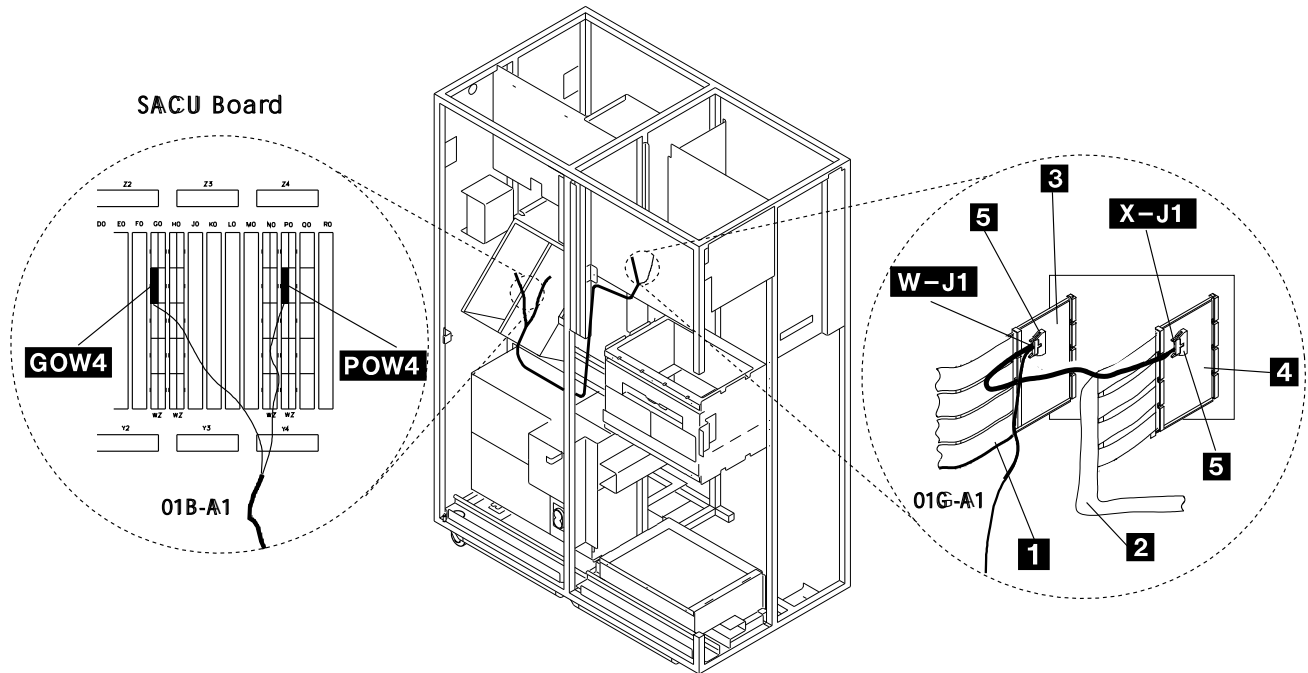
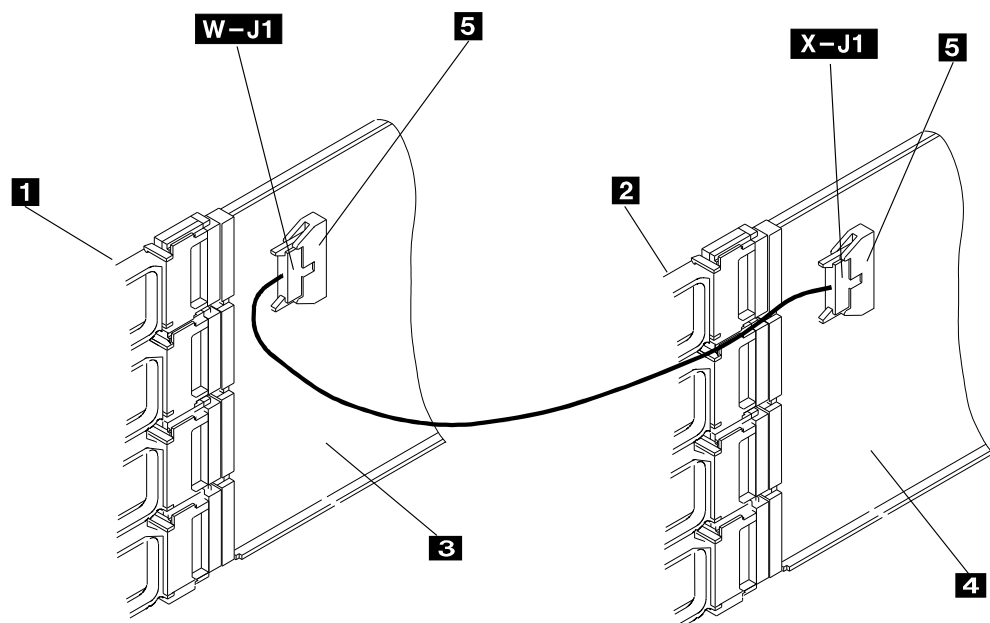

Figure 4-26. Cable 2 (PN 43G3181) Routing on a TSST Board
Figure 4-27. Cable 1 (PN 43G3180) Routing on a TSSB board
- Step 4. ____ Take a DICO card (PN 17G6080) , remove the four interposers plugged on top of the card , while holding the card in your hand, plug the DICO cable 1 (or 2) lead **X-J1** to connector **5** of the DICO card PN 17G6080. (see Figure 4-26 or Figure 4-27).
- Step 6. ____ Position the DICO card **4** in location 01G-A1 X02, and the DICO card **3** in location 01G-A1 W02 (see Figure 4-26 on page 4-27 when plugging the card into a TSST board or see Figure 4-27 on page 4-27 when plugging the card into a TSSB board).